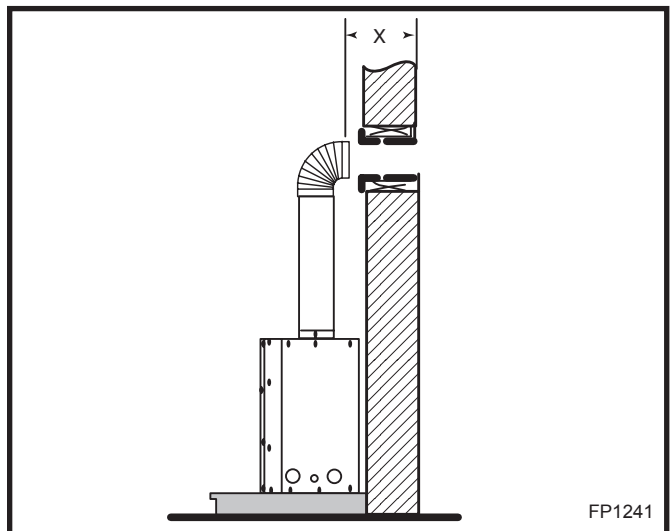

Fig. 18 Horizontal length requirement.
Apply a bead of high temperature sealant to the inner and outer flue collars of the fireplace and using appropriate venting component(s) attach to fireplace with three (3) screws. (Fig. 18) Follow with the installation
Measure the horizontal length requirement including a 2" (51 mm) overlap, ie from the elbow to the outside wall face plus 2" (51 mm) (or the distance required if installing a second 90° elbow). (Fig. 18)